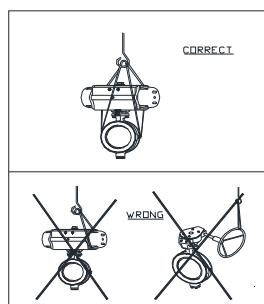

Fig 1.2 Lifting of the Valve
4.5 Lever or hand wheel of gear operator for respective valves are packed loosely and kept in the same box, in which the valve is packed (wherever applicable). When handling the valve either by hand or by mechanical means, special care should be taken not to damage the lever or gear operator. Lift the valve only as shown in fig. 1.2. Lifting the valve from any other location may damage the valve components.